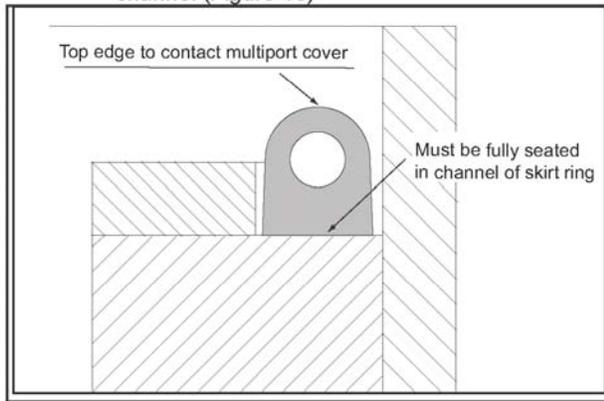

Figure 13: D-Ring Gasket Cross Section
- a. D-ring gasket is free of dirt and debris, the round edge is facing up, and it is fully seated in the skirt channel (Figure 13)